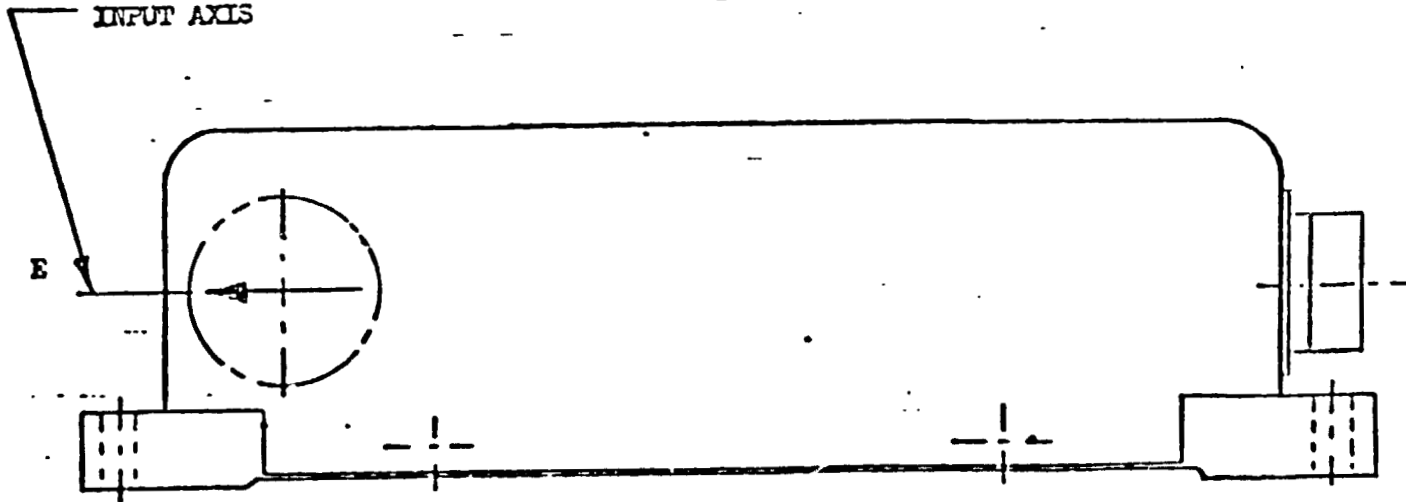

FIGURE 1
3.4 Insulation Resistance: (See Figure 1)
3.6 Polarity (See Figure 1)
Position the package on the rate table with the Roll gyro input axis vertical, (B down) and measure the outputs of Pitch and Yaw gyros (Null). Apply a CW and CCW rate of 100 deg/sec. and measure the outputs of Pitch and Yaw gyros. (See Figure 1). Subtract algebraically the null value from the outputs at 100 deg/sec. input and enter the largest value in the difference line on the data sheet. Repeat with Pitch gyro input axis vertical (E down) and measure the outputs of Roll and Yaw gyros at 100 deg/sec. rate input.